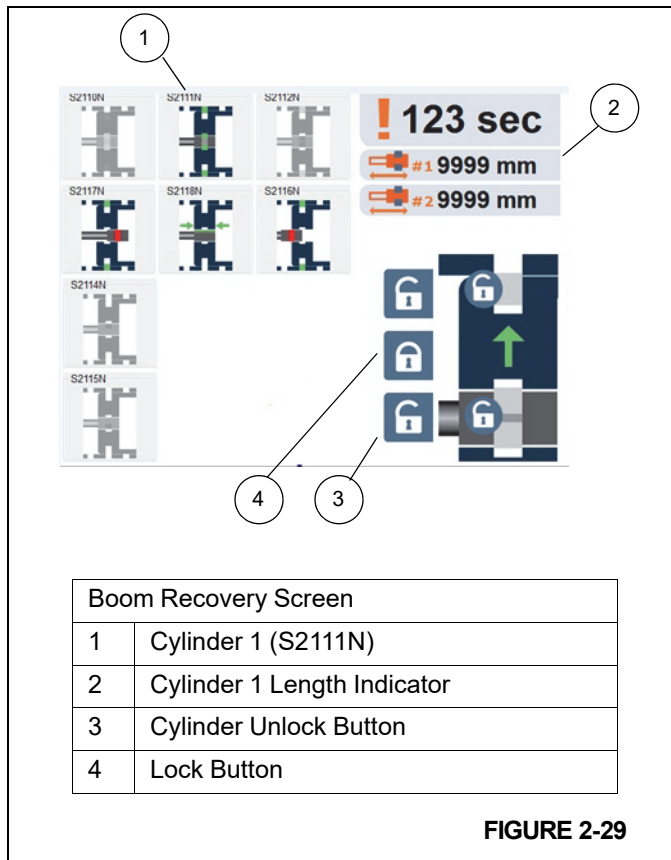

FIGURE 2-29
5. Make sure cylinder 1 (1, Figure 2-29) is at 0 mm (2).
- a. If cylinder 1 is not at 0 mm, unlock the cylinder using the cylinder unlock button (3) and the jog dial selector.
- b. Use the joystick and retract cylinder 1 (1) until the length reads 0 mm (2).
- c. Make sure that cylinder 1 (S2111N) (1) is green.
- d. If it is not green, use the lock button (4) and the jog dial to lock the boom and verify that cylinder 1 (S2111N) (1) is green.